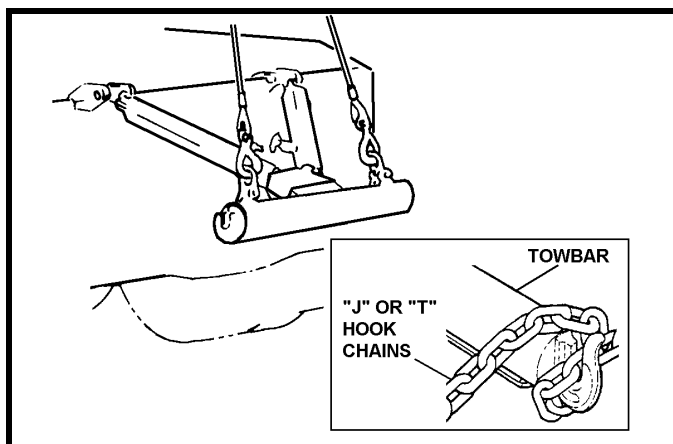

FIGURE 4.4
- (a) After preparations have been made, back the wrecker up to the vehicle until the towing sling makes contact with bumper, attach "J" or "T" hook chains to vehicle and towbar. See Figure 4.4. Refer to TOW SLING OWNER'S MANUAL for recommended use of towing slings. For a particular hook-up, see vehicle "OWNER'S MANUAL" or "AAA TOWING MANUAL".